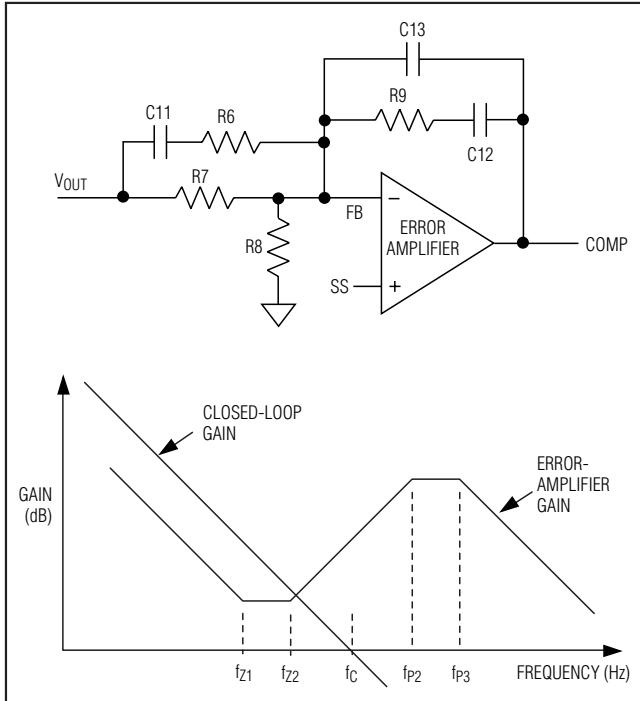

Figure 3. Error-Amplifier Compensation Circuit (Closed-Loop and Error-Amplifier Gain Plot) for Ceramic Capacitors
In reference to Figures 3 and 4, the two zeros are at:
Figure 3 shows the error-amplifier feedback as well as its gain response for circuits that use low-ESR output capacitors (ceramic). In this case f_{ZESR} occurs after f_C . f_{Z1} is set to $0.8 \times f_{LC(MOD)}$ and f_{Z2} is set to f_{LC} to compensate for the gain and phase loss due to the double pole. Choose the inductor (L) and output capacitor (C_{OUT}) as described in the *Inductor Selection* and *Output Capacitor Selection* sections.
Choose a value for the feedback resistor $R9$ in Figure 3 (values between $1k\Omega$ and $10k\Omega$ are adequate).